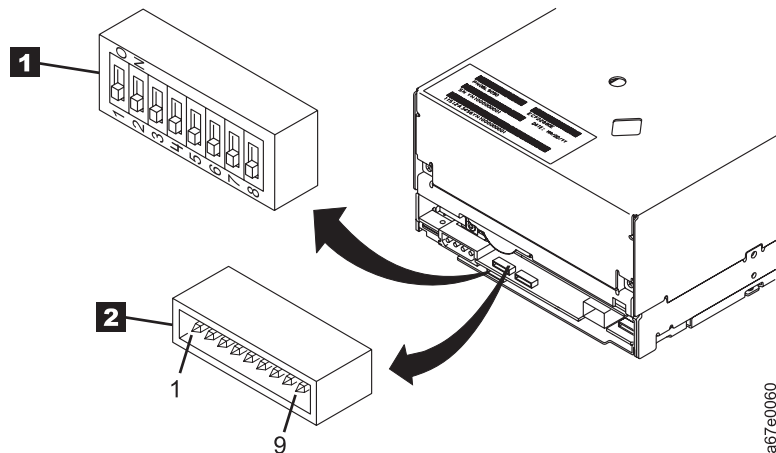

Figure 8. Setting the Loop ID and the AL\_PA. The feature switches are located on the bottom of the drive.
If Feature Switch 3 on the drive is set to OFF (see **1** in Figure 8 on page 17), the LID/status connector **2** has the following definition:
2. Locate the LID/status connector on the drive (see **2** in Figure 8).
If Feature Switch 3 on the drive is set to 0N (see **1** in Figure 8 on page 17), the LID/status connector **2** has the following definition:
- \_\_\_ 2. Locate the LID/status connector on the drive (see **2** in Figure 8 on page 17).